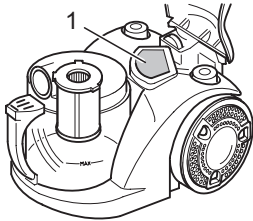

Fig. 23
8. On this occasion, also take out the motor protection filter (Fig. 23/1).